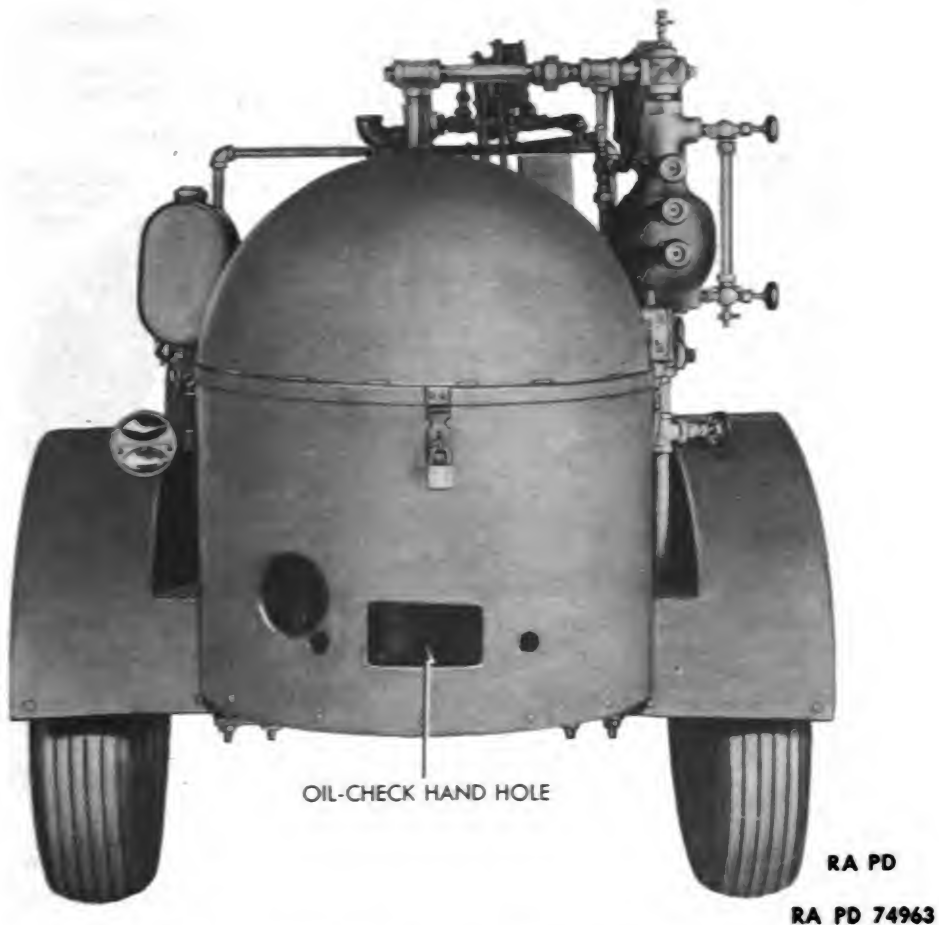

Figure 101 — Rear of Steam Generating Plant
(1) **CUTTING OIL-CHECK HANDHOLE.** Engine oil level is checked by removing plug on rear of engine. Access to plug will be eased by cutting a 4- by 7-inch handhole in rear of engine compartment skirt (fig. 101) with an acetylene torch.